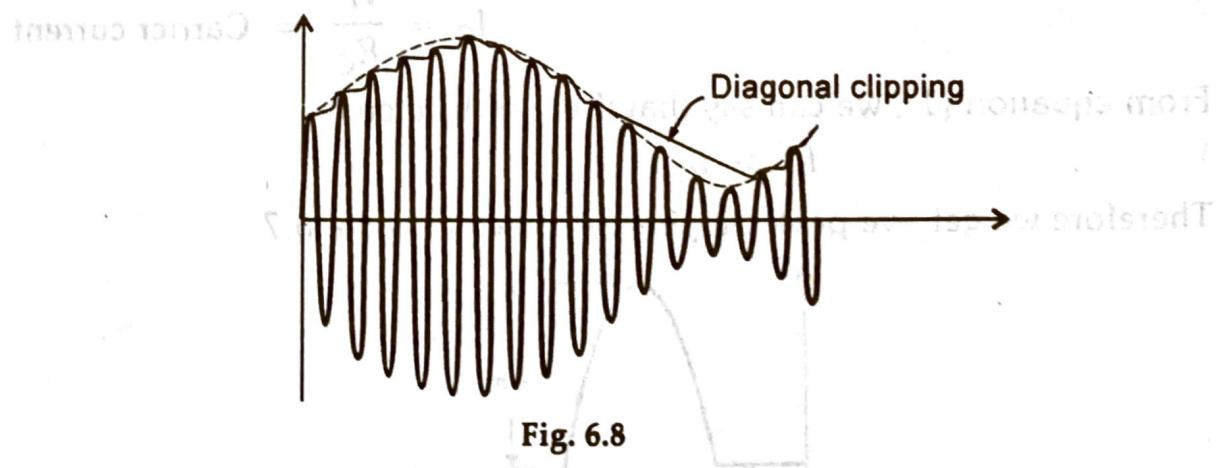

Fig. 6.8
(2) Diagonal Clipping :
- This results in diagonal clipping as shown in figure 6.8.